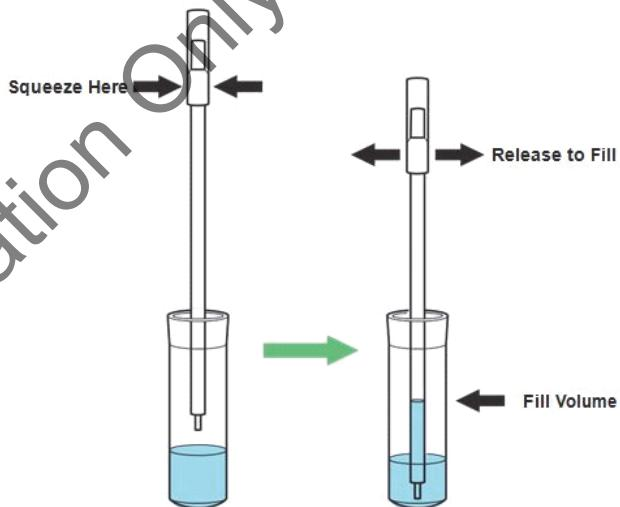

Figure 1. Transfer Pipette
6. Open the cap on the specimen transport tube. Squeeze the bulb of the transfer pipette completely and place the pipette tip in the ESwab transport medium tube containing the patient specimen (Figure 1).
4. Lift the cap with the attached swab from the transport tube (do not remove the swab completely from the transport tube). Squeeze the bulb of the transfer pipette completely and place the pipette tip in the ESwab transport medium tube containing the patient specimen (Figure 1).